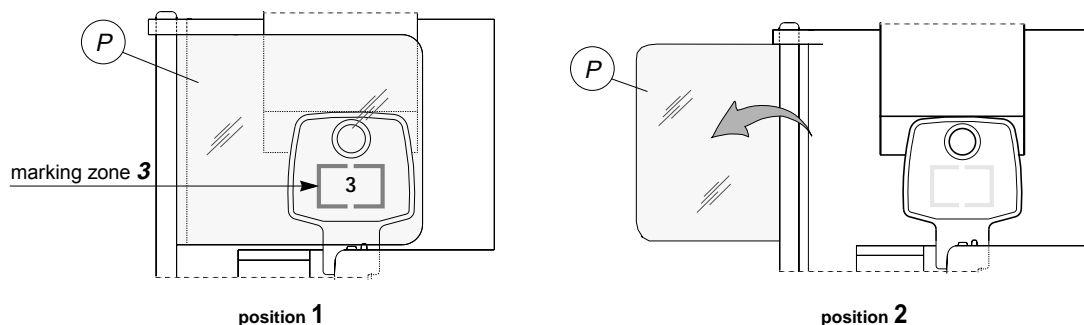

Fig. 17
**WARNING:** for tracking, always place the glass slide (P) over the key, otherwise the shiny surface of the key will prevent good visibility of the projected area (fig. 17 - position 1). When the tracking operation has been carried out, the glass slide (P) must be returned to position 2.